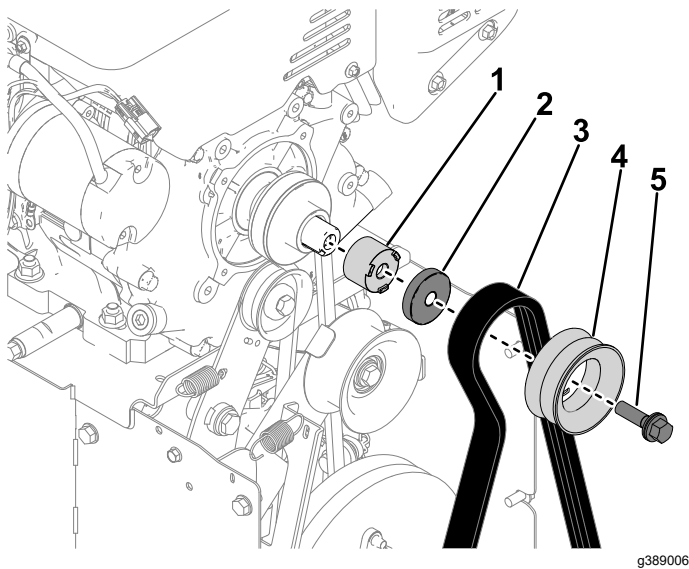

Figure 22
2. Install the spacer pulley, pulley support, impeller pulley, and auger belt to the crank shaft (Figure 22).
4. Install the blade bolt (7/16 x 1-3/4 inch) to the impeller pulley (Figure 22). Torque the bolt to 13.6–18.1 N•m (120–163 in-lb).